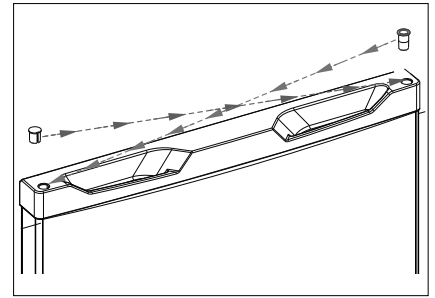

Fig. 9
- ▶ Insert the blind plug into the hole on the right-hand side (Fig. 9).